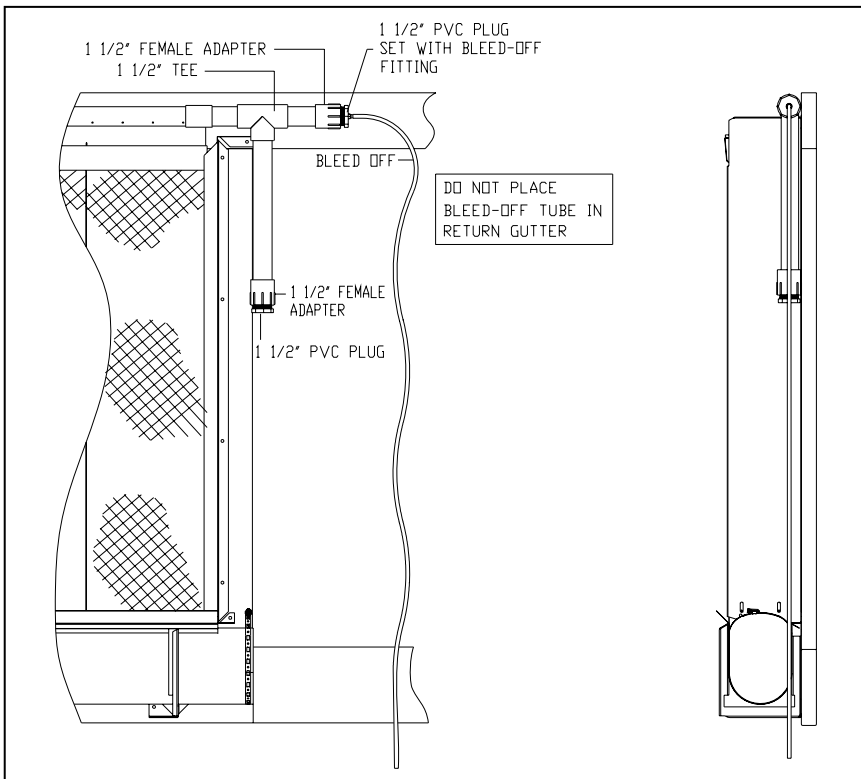

Figure 27
4. Place a 10' section of 1 1/2" pipe WITH THE METERED HOLES POINTING TOWARD THE TOP COVER onto the pipe brackets at the pump tank end of the system. Enough pipe should extend beyond the top cover to later attach a coupling for plumbing installation as shown in Figure 27.